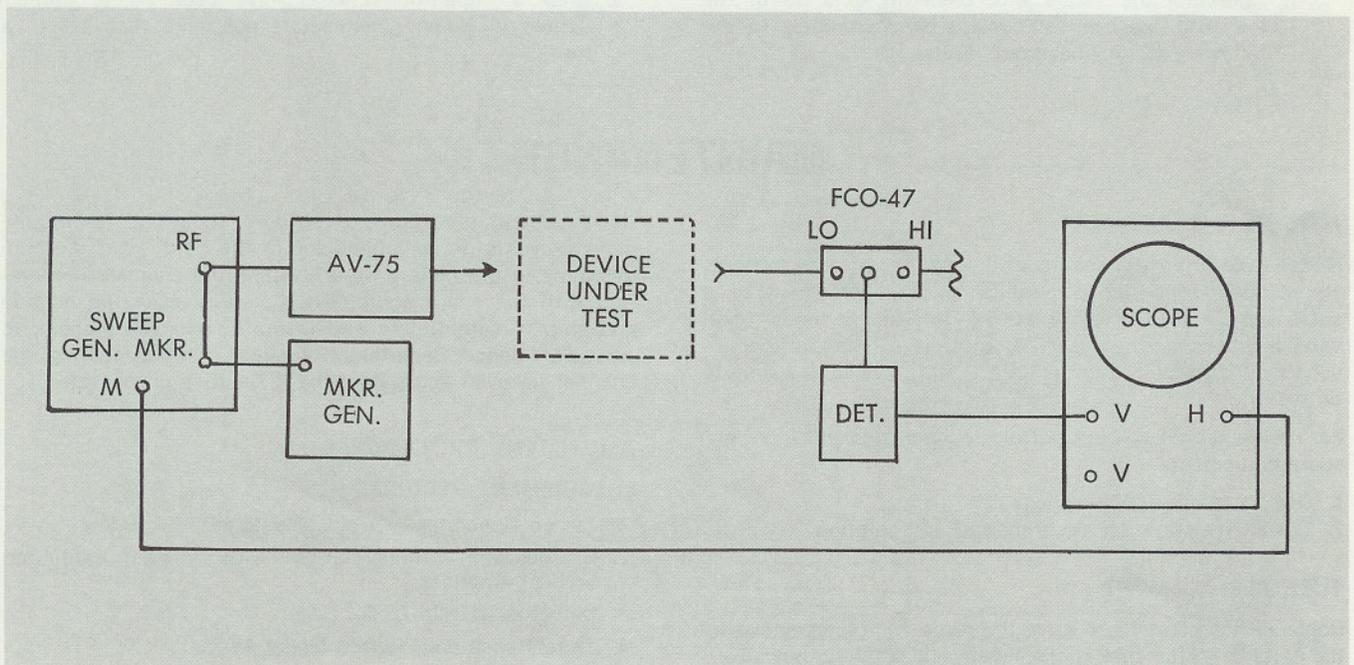

Fig. 4—Test Set-up
1. Set up equipment as shown in fig. 4.
2. Set up test equipment as shown in fig. 4.
8. Disconnect VTVM; connect a low-capacity probe in its stead; connect the other side of the probe via a D-86 detector to an oscilloscope; insert a sweep generator between the marker generator and the AV-75; set sweep for 40.5 to 42 mc. This set-up is similar to that in fig. 4.
1. Set up equipment as in fig. 4 but omit FCO-47 from circuit.